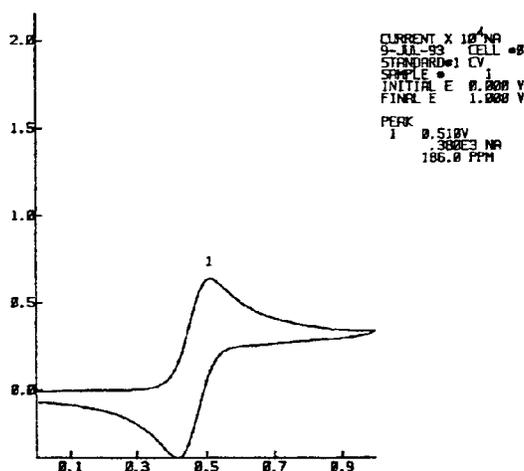

Figure 4. **PLAYBACK OF STANDARD**
8. For the Model 384B to use the information just entered, it is necessary to run another playback. To do so, replace the paper to obtain a new plotting surface and press **PLAYBACK**. A new playback record will be produced. In this one, the specified concentration (186 ppm) will be listed for the peak, together with the potential and current. The playback should be similar to that depicted in Figure 4.